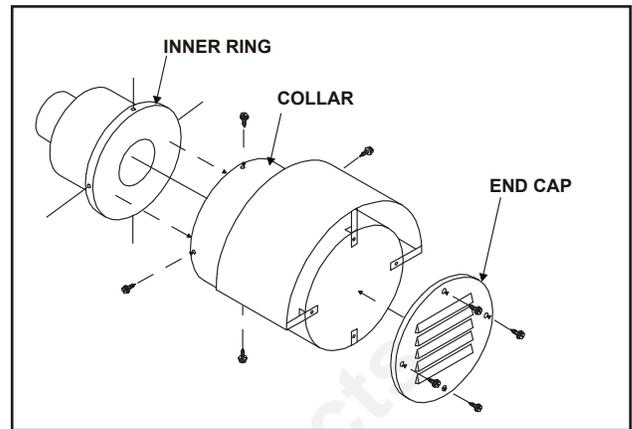

Figure 16.
- C. Fasten the wire mesh to the 10-1/2 in. collar to cover the exhaust port hole, using (4) sheetmetal screws.
- D. Slide the inner ring inside the cap assembly, carefully positioning the inner ring to its original orientation. See Figure 16. Carefully align the screw holes on the 10-1/2 in. diameter collar and the inner ring.
- F. Feed the four (4) wires back through the hole on the collar and tighten the nut on the right angle connector. Reconnect the brown and red wire to the vacuum switch and connect the black and white wires to the fan motor.
- G. Reattach the end cap to the cap assembly with four (4) sheet metal screws. Position the end cap with the louvers pointed downward (horizontal termination).